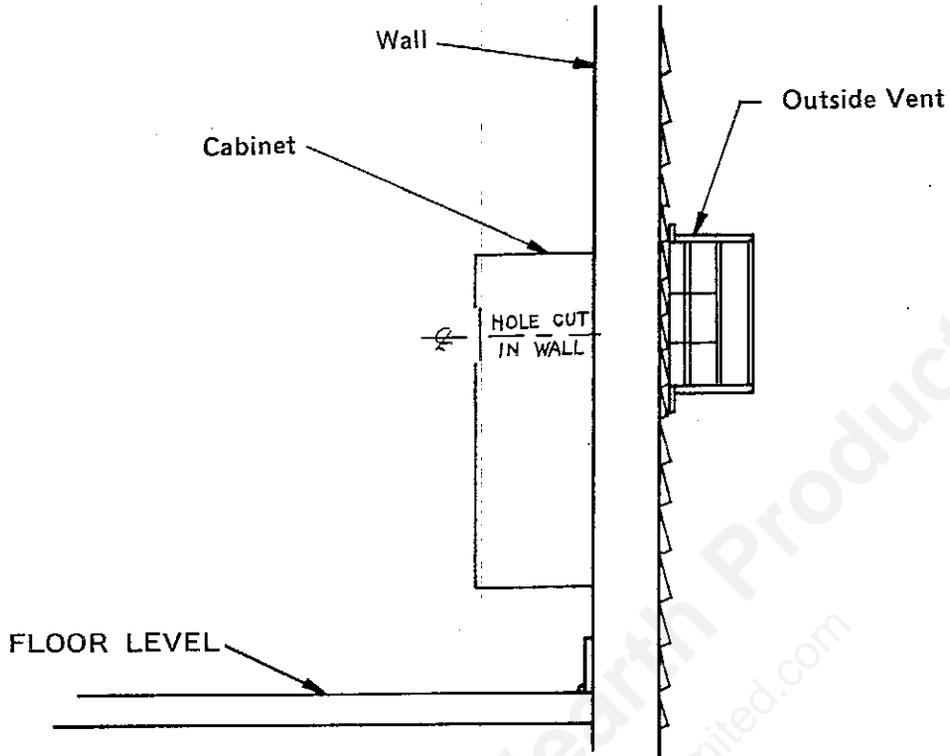

FIGURE 2
3. Determine the location of the wall studs to insure that one will not interfere with the hole which must be provided through the outside wall for the telescopic vent. If a stud should interfere it is advisable to shift the position of heater either right or left enough that the stud will be cleared when hole is cut. Figure 2 and Figure 3 will give additional help in determining the vertical and horizontal center lines of the hole. If the heater is to be installed above the baseboard, add the distance that you desire to the vertical height shown in Figure 3.